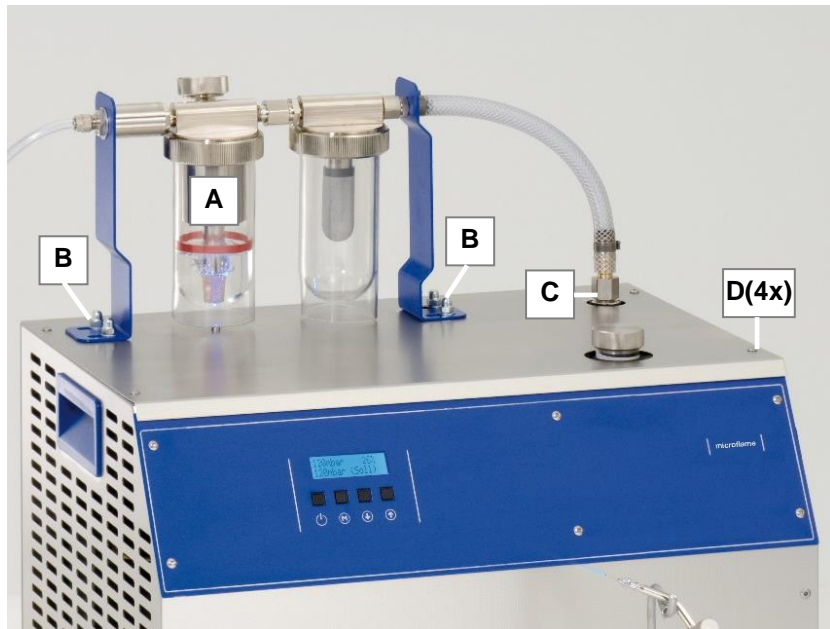

Fig. 5.5 Top part complete with glasses
2. Drain the vaporizer liquid from the vaporizer glass (fig. 5.5.A) and store it safely.
3. Unscrew the screw connection (C) at the reactor outlet.
4. Unscrew the 4 cap nuts (B) that fasten the top part with the glasses and put the top part at a safe place.